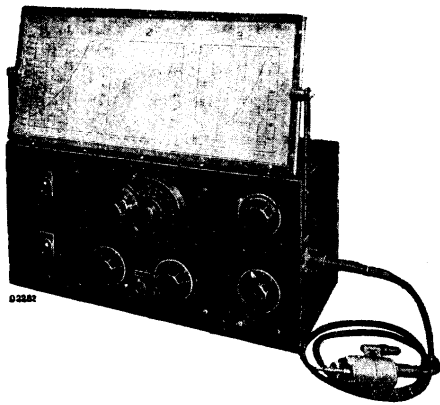

Fig. 1.
1. Service oscillator GM2880F (see Fig. 1).